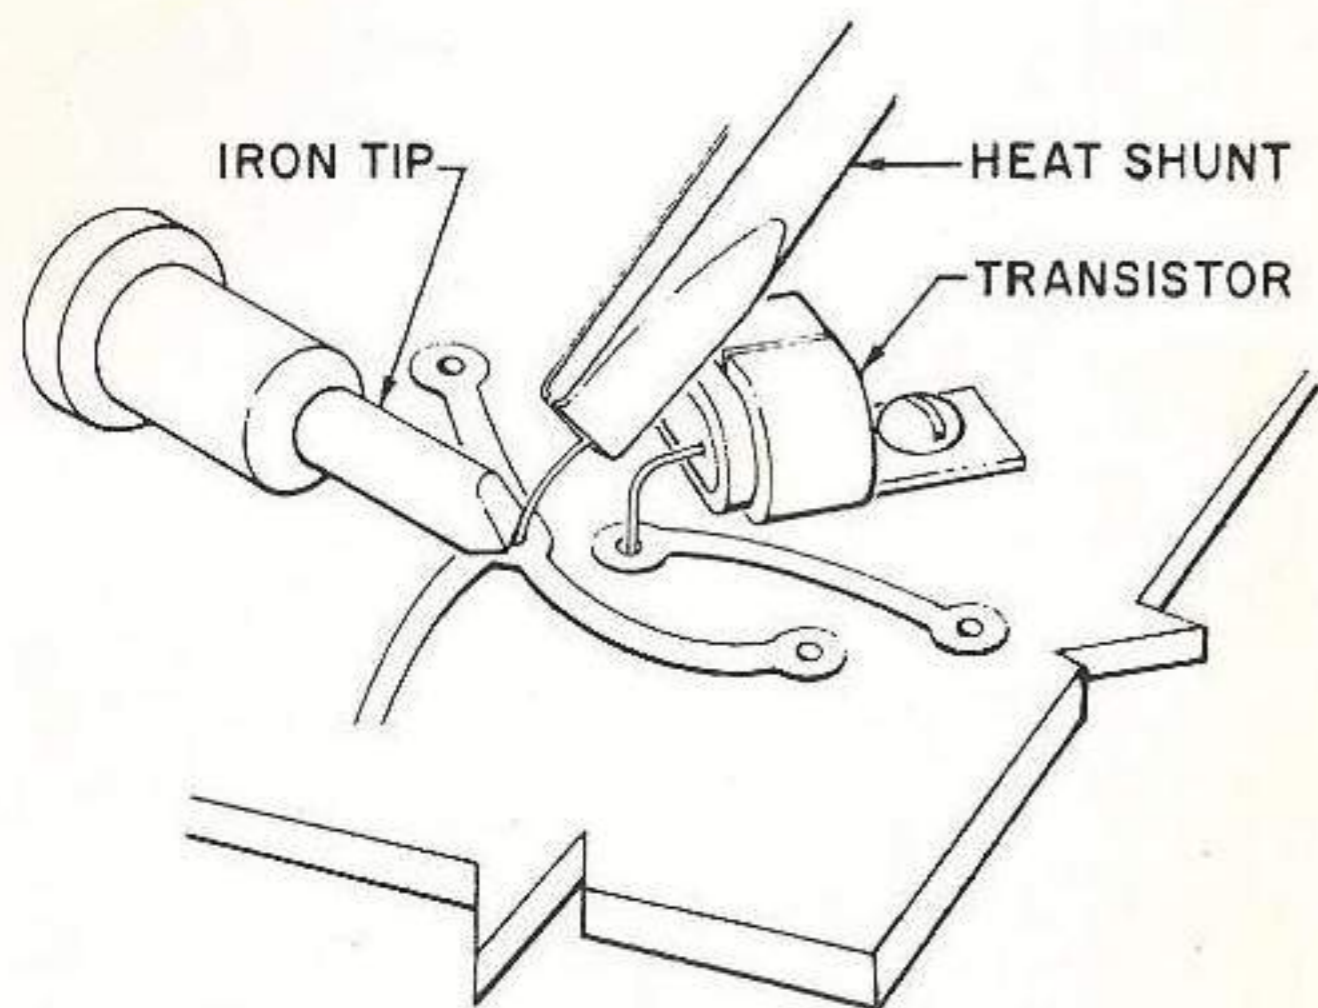

Figure 6. Heat Shunt
a. A heat shunt must be used when soldering diodes, meters, or other parts and equipment which might be damaged by heat. Heat shunts shall be of such material, size, and shape as to afford adequate protection to parts while offering minimum interference to the soldering procedure. Shunts should also permit rapid application and removal with a minimum of effort. They may be held in place by friction, spring tension, or any other suitable means which will preserve the finish and insulation of the component being soldered. See figure 6.